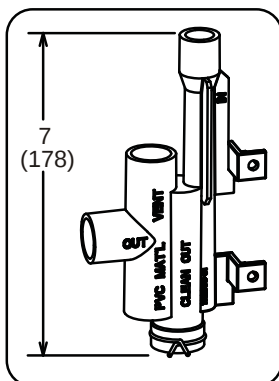

Figure 48. Trap / Drain Assembly Using 1/2 in. PVC or 3/4 in. PVC
This unit is designed for either right- or left-side exit of condensate piping in upflow applications. In horizontal applications, the condensate trap must extend below the unit. An 8" service clearance is required for the condensate trap. Refer to **Figure 39** and **Figure 40** for condensate trap locations. **Figure 47** and **Figure 48** show trap assembly using 1/2" PVC or 3/4" PVC.
3. Install the cap over the clean out opening at the base of the trap. Secure with clamp. See **Figure 47** and **Figure 48**.
4. Install drain trap using appropriate PVC fittings, glue all joints. Glue the provided drain trap as shown in **Figure 47** and **Figure 48**. Route the condensate line to an open drain. Condensate line must maintain a 1/4 in. downward slope from the furnace to the drain.